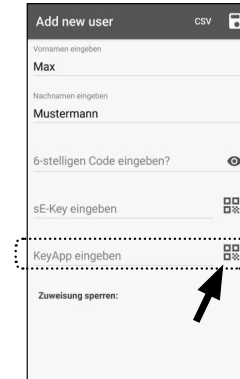

Fig. 41
- ① Tap the QR code symbol in the "Enter KeyApp" line in the user menu (Fig. 41).